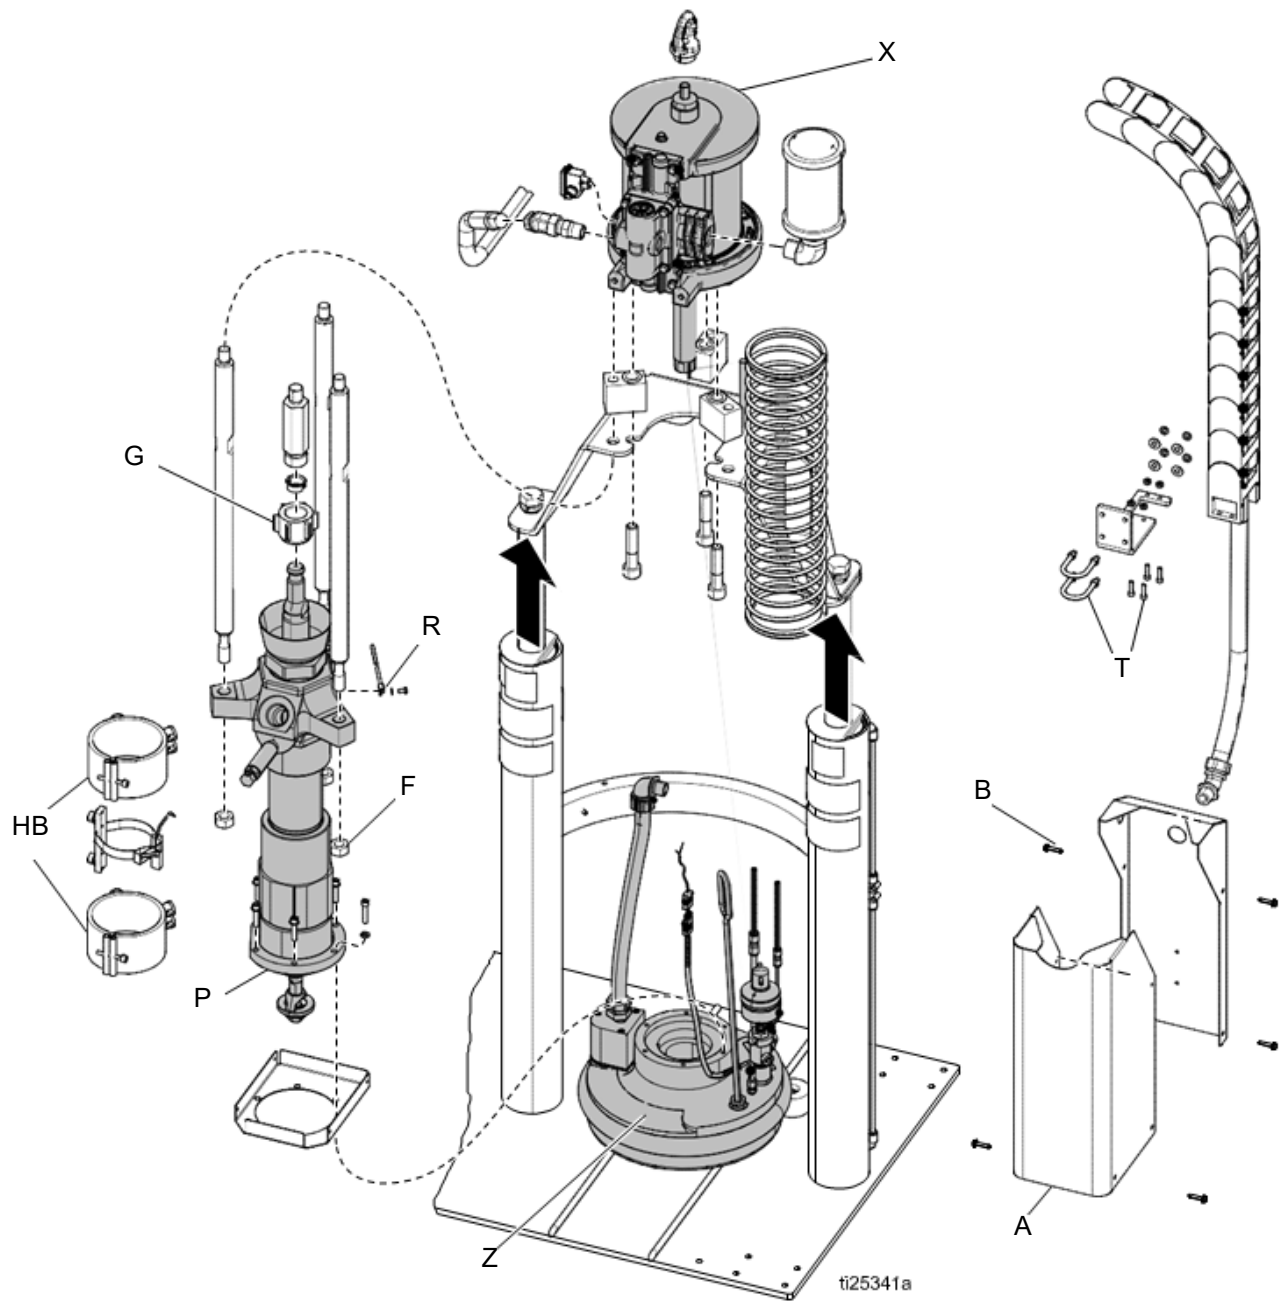

FIG. 28
2. Make sure the Ram plate is down and the Ram Director Valve (CC) is in the neutral position.
5. On the ADM, turn off the system heat (D).
8. If the system includes a Pump shield, remove the Pump sheet metal enclosure (A). See FIG. 28.
- a. Remove the cover screws (B).
- b. Remove the heater bands (HB) and disconnect the ground wire (R).
11. Disconnect the electrical cable from the Air Motor (X).
13. Remove nuts (F) from Pump/Air Motor tie rods at the Pump end.
14. Remove the nuts and bolts (T) holding the cable tract to the Air Motor support plate. Slide the end of the Cable Track outboard of the mounting plate.
16. Fully loosen the Pump rod coupler (G) to the Air Motor rod.